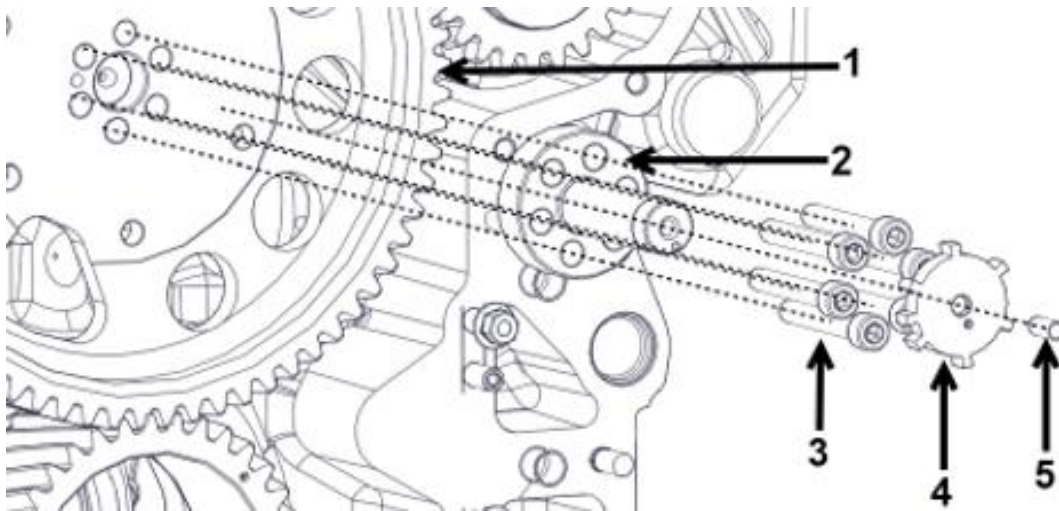

Figure 83.
2. Loosen the tightening bolt (Figure 83, Item 5) and remove the trigger wheel (Figure 83, Item 4).
3. Remove the bolts (Figure 83, Item 3) from the connecting shaft (Figure 83, Item 2) of the trigger wheel. Remove the connecting shaft, and camshaft gear (Figure 83, Item 1).